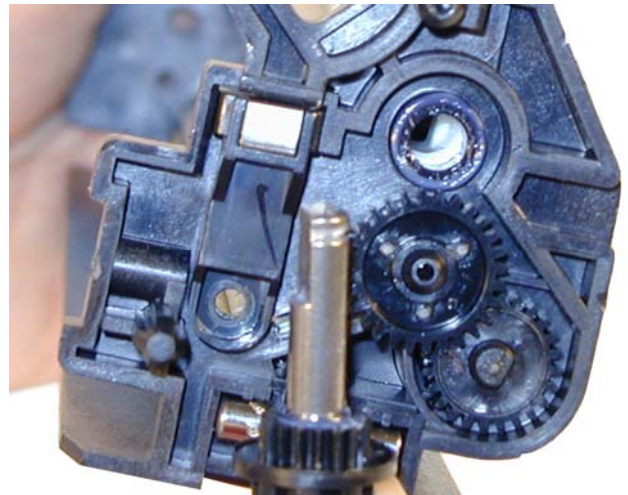

Figure 36
31) Carefully pry off the opposite side drum drive gear. It is on tight! See **Figure 36**